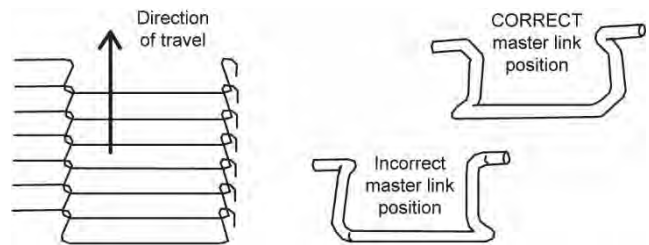

Figure 17. Conveyor and Master Link Orientation
- d. Install the belt on the conveyor frame. Check that the conveyor belt links are oriented as shown in Figure 17, and that the smooth side of the conveyor belt faces UP.
- e. Connect the inside master links. Check that the links are oriented as shown in Figure 17.
- f. Connect the outside master links. Note that the outside master links each have an open hook on one side. This hook aligns with the hooks along the sides of the other conveyor links. See Figure 17.